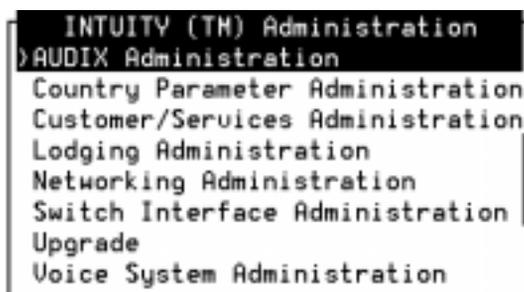

Figure 2-1. Lucent INTUITY Main Menu
1. Start at the Lucent INTUITY main menu (Figure 2-1).